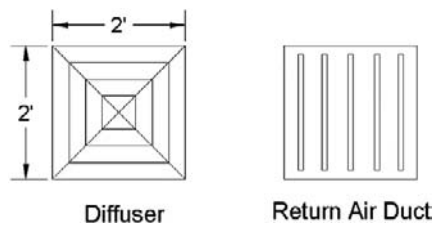

FIGURE 17.16
- Diffuser and return air ducts, both 2' × 2', as seen in Figure 17.16.